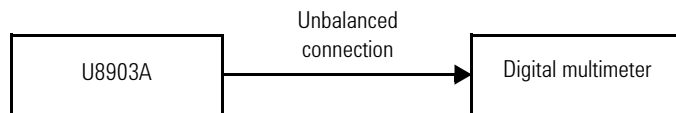

Figure 2-2 U8903A to digital multimeter connection for AC accuracy and flatness verification
- 1 Connect the U8903A output channel to be tested to the digital multimeter via the Unbalanced connection as shown in Figure 2-2. The BNC-to-banana jack adapter is used for this connection. Preset both the U8903A and digital multimeter.